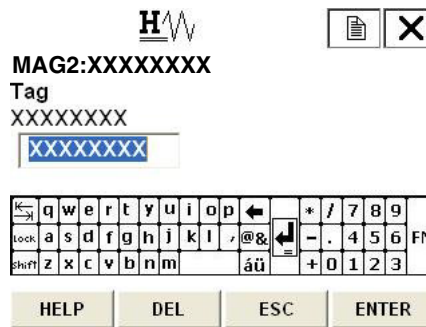

Figure 150.
Figure 150 is then displayed.
- Once the display as shown in Figure 150. appears, use the arrow key up, down, right or left and numerical keys to enter the number. After entering, press F4 (ENTER). If F3 (ESC) is pressed here, the selection is canceled and the display returns to the Basic setup menu.